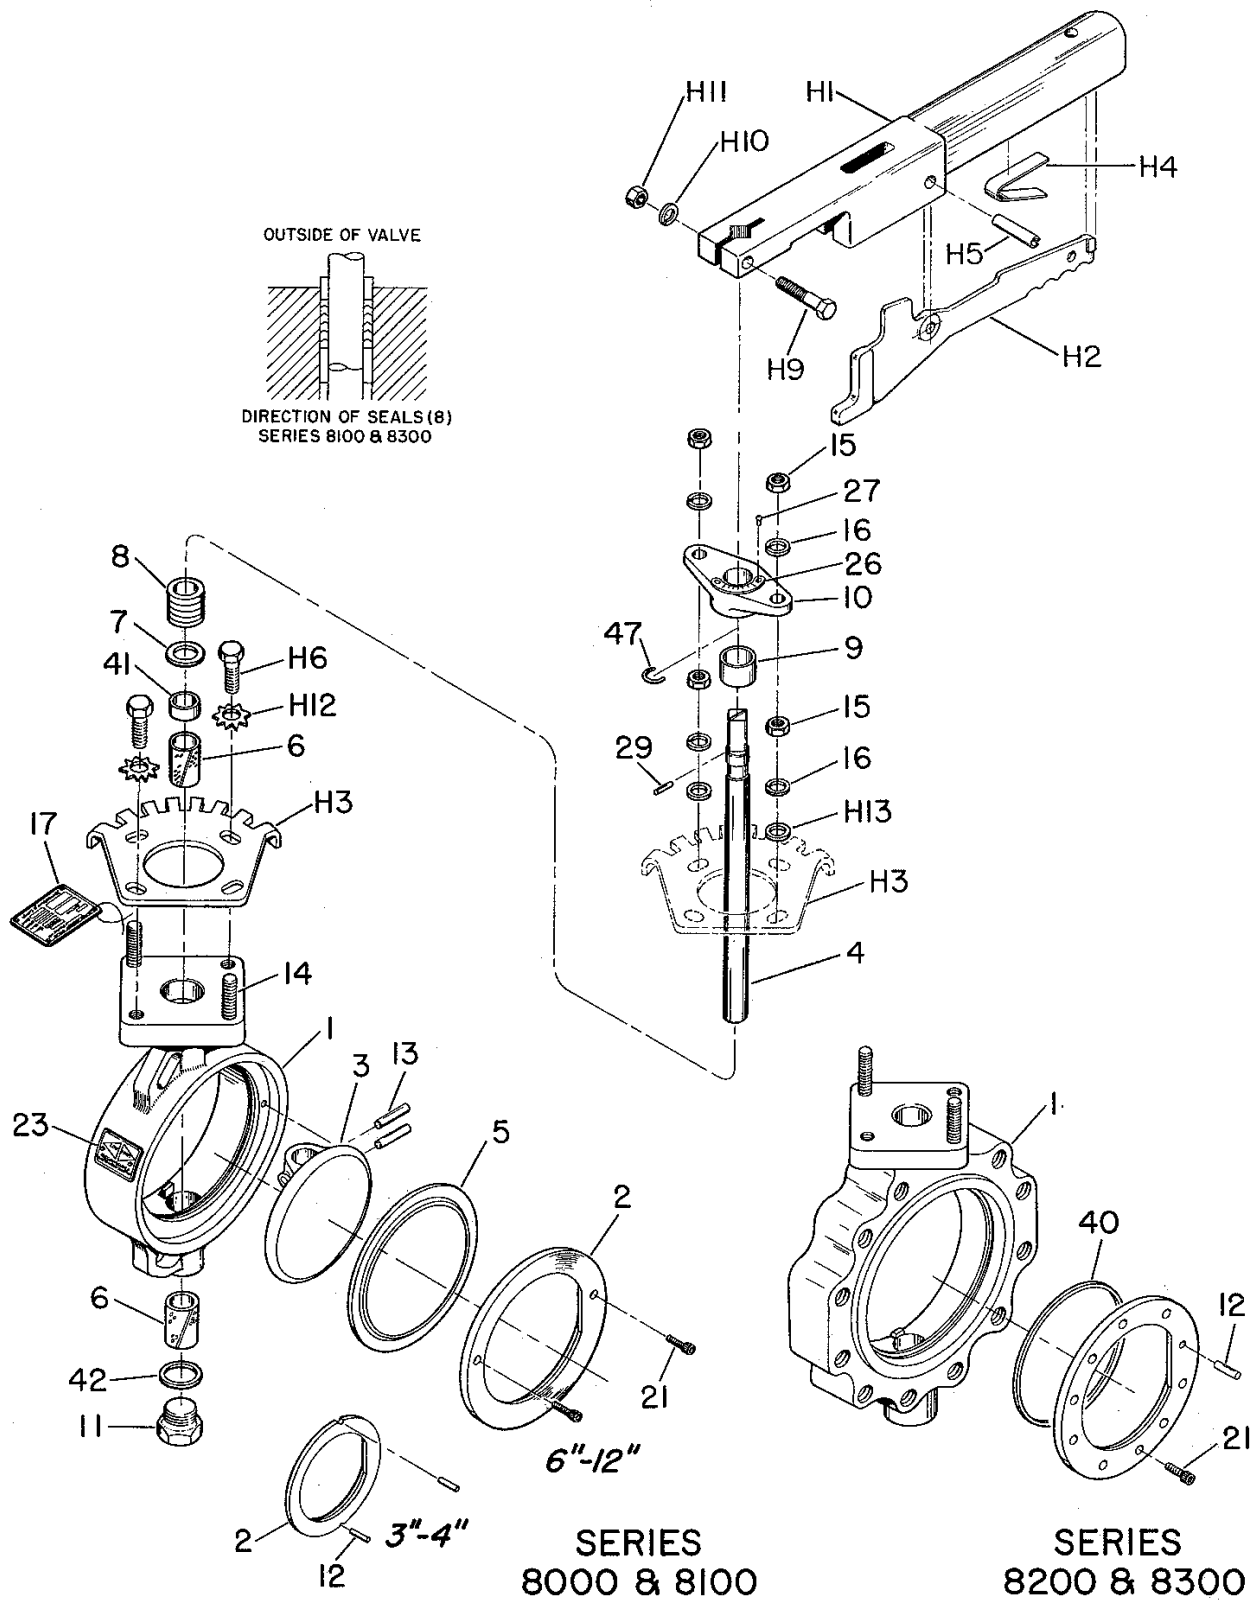
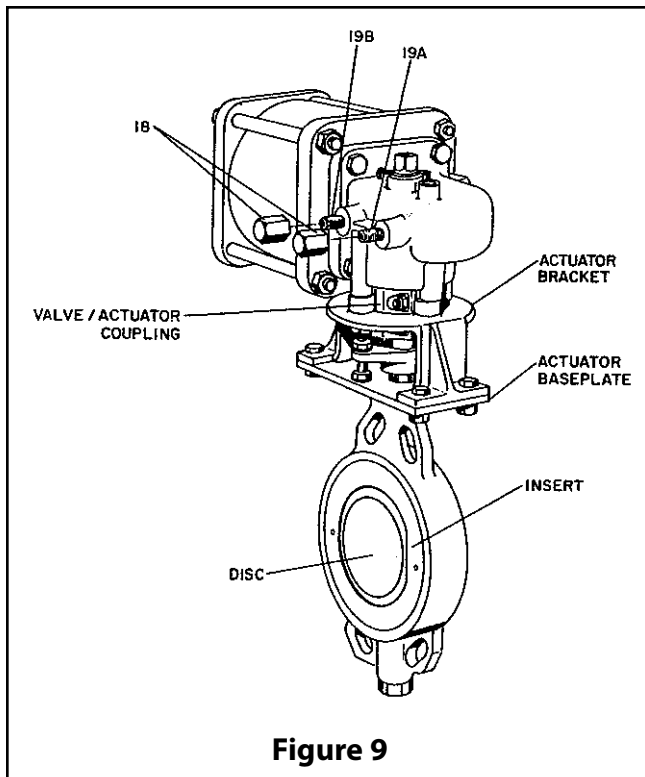

Figure 6
Figure 9
To prevent seat damage from over-travel of the disc beyond the closed position (primarily during field mounting of a handle or actuator), a "positive stop" feature has been designed into the *Wafer-Sphere* butterfly valve. The "positive stop" feature also makes it possible to adjust the actuator travel stops in-line. The location of this feature is on the body insert shown in Fig. 6.
Routine maintenance consists of tightening down the compression plate periodically to compensate for seal wear. The valve should be closed during tightening. The compression plate, however, should not be tightened down too severely, since this will shorten the life of the seals. More extensive maintenance such as seat, seal and bearing replacement is described below. Numbers in () refer to items shown in Fig. 6.
4. Remove the disc pin welds by grinding or machining off the weld. Drive out the pins in the direction shown in Fig. 6.
5. Grind or file off the tack weld locking the pressure plug (11). Remove the plug and its seal (42).
6. Use a soft rod and hammer to tap the bottom of the shaft (4). Remove it through the top of the valve. NOTE: In doing so, and freeing the disc, be careful not to scratch the sealing surface of the disc.
7. Remove the packing (8) and the spacers (7) and (41).
8. Remove the top bearing (6) by pushing it up from the bottom (waterway).
9. Remove the bottom bearing (6) by pushing it down from the top (waterway).
5. Install the bearings (6) into the body bores from the ends of the valve.
7. Position the disc (3) in the body and slide the shaft (4) through the body and disc. Use caution to prevent damage to the bearings. An arrow and the word "bonnet" on the disc indicates correct orientation with the compression plate (10).
8. Insert the disc pins (13) and drive them into place. The wedge pins used in the design of the 8000 and 8200 series valves must be driven so that both pins are the same depth within 1/16". This requirement is not relevant to the taper pin design in the 8100 and 8300 series. Be certain that the pins are installed from the direction shown in Fig. 6. When they are correct, the indicator pointer (29) will point exactly parallel with the face of the disc. Weld both ends of the pins, small end first. After the disc cools, clean the welds with a wire brush. CAUTION: use care to keep contamination out of the valve.
9. Install the upper bearing spacer (41) (on all valves except 8" 8100 and 8300 series valves), the spacer (7), the packing (8), the compression ring (9) and the retainer ring (47) where applicable. If the packing is of the TFE chevron type, be certain that it is installed in the orientation shown in Fig. 6.
10. If the studs (14) have been removed from the valve, reinstall them in the holes shown in Fig. 6.
11. If the handle ratchet plate or the actuator base plate has been removed from the valve, reinstall it in the orientation shown in Fig. 6 or Fig. 9. Install lockwashers and screws in the two bonnet holes not used by the studs and install the lower lockwashers (16) and nuts (15) on the studs. Do not tighten the screws and nuts until the stops are set, (see SETTING ADJUSTMENTS Section).
12. Place the compression plate (10) over the shaft (4) and studs (14). Orient the plate so that the indicator pointer will be over the indicator plate. Install the lockwashers (16) and nuts (15), but do not tighten. Install the indicator pointer in the shaft.
13. Place the plug seal (42) in the recess at the bottom of the valve and install the plug (11). Torque the plug until it is flush with the body. A small (1/16") tack weld on the corner of the plug is recommended. CAUTION: A larger tack weld is apt to have enough heat to damage the seal.
15. Install the insert and insert screws as shown in Fig. 6. The 3" and 4" 8000 and 8100 series valves do not have insert screws, They use two pins (12) to locate and hold the insert. Tighten the screws uniformly.
16. With the valve still closed, tighten the nuts (15) on the compression plate evenly until the packing is adequately compressed to prevent leakage. This should require tightening the nuts approximately 1 1/2 to 2 full turns past the "finger-tight" position.
If it is necessary to orient the actuator in a different quadrant (Figures 9 and 10):
Setting stops on ST and ST-MS Pneumatic Actuators (Fig. 9)